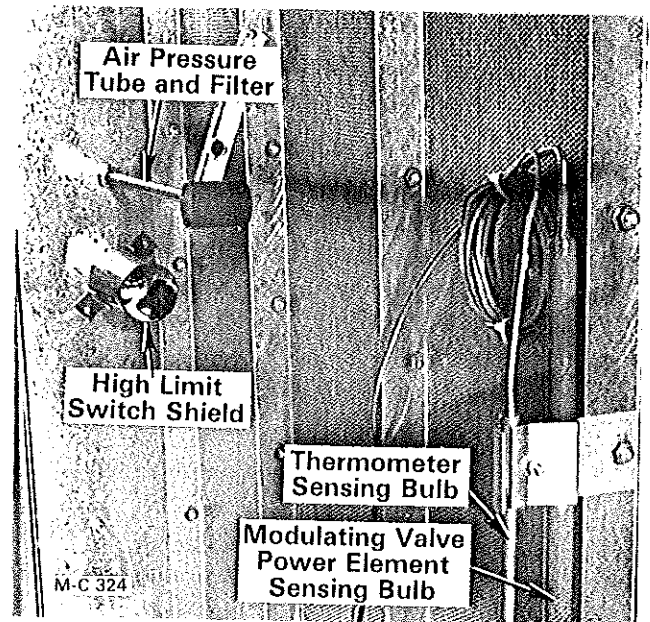
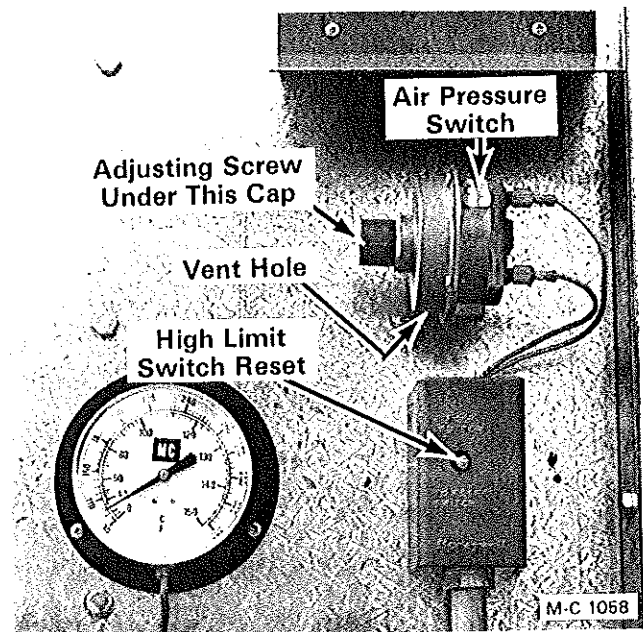

Figure 30
Figure 34
5. Clean out the high limit switch shield. Remove the air pressure switch and clean the tube and filter, see Figure 30. Be sure the $\frac{1}{8}$ " vent hole in the bottom of the air pressure switch body is open, see Figure 34.
- D. Disconnect the two wires at the back of the air pressure switch, see Figure 34. Connect the two wires together with a short jumper wire. Do not allow the jumper wire to come in contact with any metal. This will by-pass the air pressure switch.
- E. Turn on the electric power supply to the dryer. The POWER, HIGH LIMIT and AIR PRESSURE lights will be ON. If the high limit light is not on, push the reset button on the high limit switch, see Figure 34.